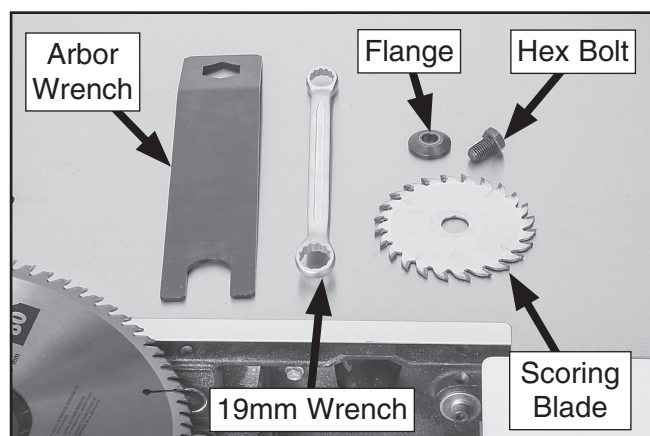

Figure 88. Scoring blade, flange, arbor hex bolt, 19mm wrench, and arbor wrench.
6. Loosen arbor hex bolt counterclockwise (left-handed threads), and remove arbor hex bolt, flange, and blade (see **Figure 88**).